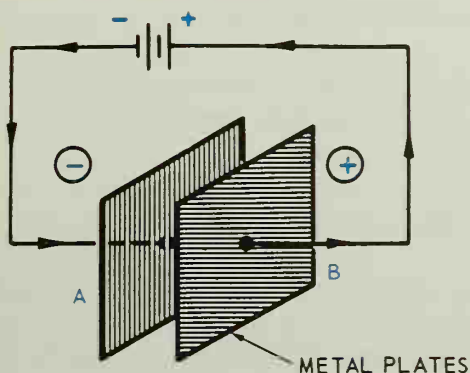

Fig. 9-1. A simple capacitor.
The most elementary capacitor is illustrated in Fig. 9-1. It consists of two metal plates
Electrons from the negative battery terminal flow instantaneously to one plate (A) of the capacitor. Plate B is very close but not in contact with plate A, and plate B is within the established electrostatic field. The electrons on plate B are repelled by the electrons on A and are attracted to the positive terminal of the battery. This creates a potential difference between the two plates and the capacitor is CHARGED. Note in Fig. 9-1 that the charge on the capacitor is opposite in polarity compared to the source voltage. A current does flow in the circuit but only during the charging of the capacitor. When the capacitor is fully charged, the current is zero.